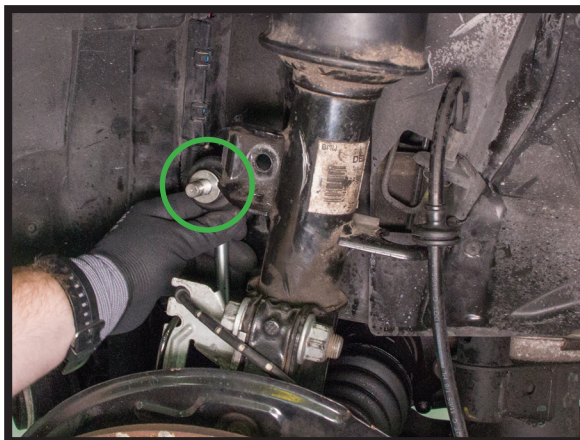

FIGURE 2
5. DISCONNECT THE SWAY BAR LINK BY REMOVING THE NUT HOLDING THE BALL JOINT TO THE STRUT. YOU MAY NEED TO HOLD THE BALL JOINT FROM SPINNING BY PLACING A WRENCH ON THE TWO FLATS OF THE BALL JOINT ON THE BACK SIDE OF THE BRACKET. (FIGURE 2)